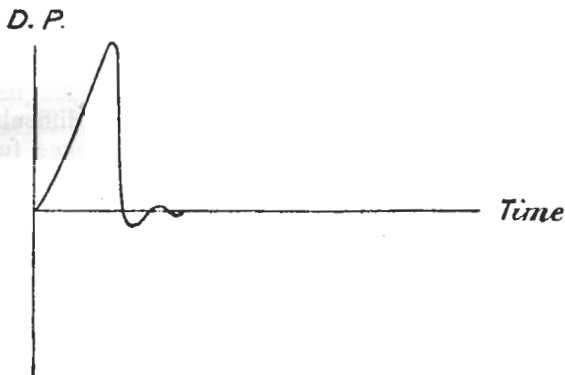

FIG. 34.
5. The wave itself is greatly damped owing to the large resistance in the spark-gap. It is for this reason that plain is often referred to, especially in America, as the "Whipcrack" method. Fig. 34 gives an idea of the "shape" of the wave, ordinates being E.M.F. and abscissæ time.